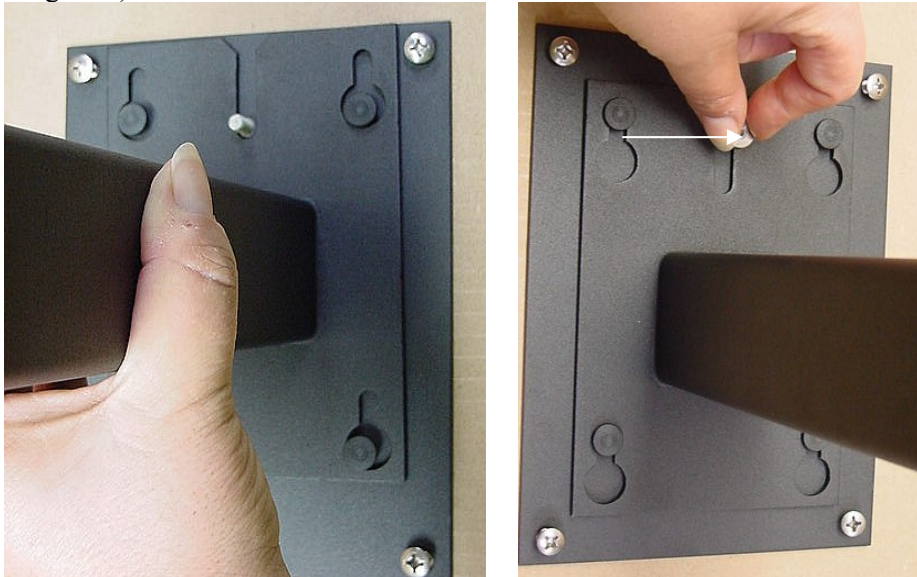

Figure 9. Attach assembly to wall mounting plate.
5. Attach the assembly to the mounting plate, with the help of an assistant. (See Figure 9.)
- b. Tighten the metric thumb nut (M6) to secure bracket to wall plate. (See arrow, Figure 9).